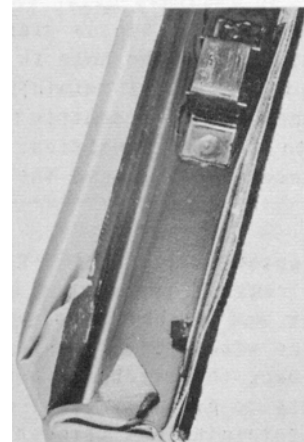

Fig. 3
3. Fold the vinyl trim around and back of the forward end metal piece on the retainer, cementing it in place, and bend the end piece back to its original position. Note: Only one layer of vinyl now remains between the seal and retainer. Press the seal clip through the hole in the trim retainer, Fig. 3. In Fig. 4, "A" is the top view showing the original method of folding the trim on the panel and "B" the new suggested method.